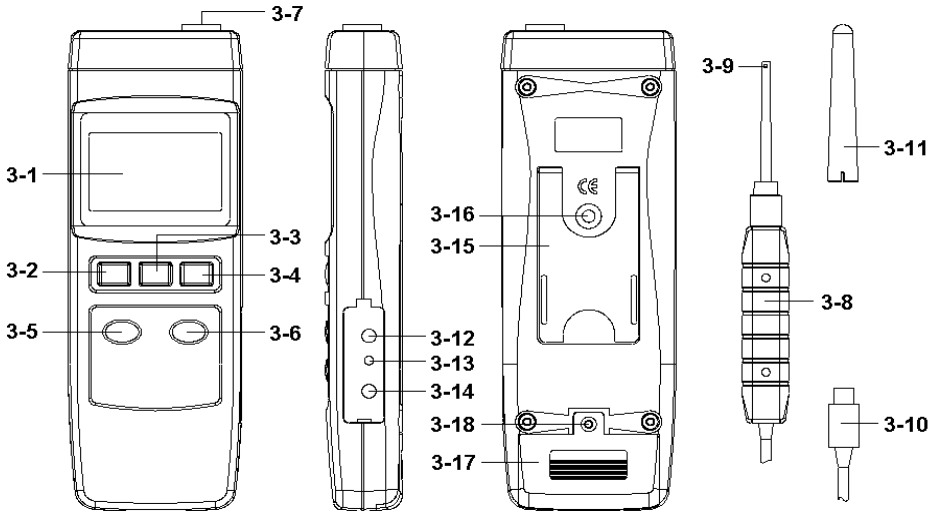

Fig. 1
- 1) Power ON the meter by pressing the " Power Button " (3-2, Fig. 1) once.
- 2) Press the " Mode Button " (3-6, Fig. 1) once , the Display will show the following screen in sequence :
- * Before the measurement, fix the probe at the exact position, press the " ZERO Button " (3-5, Fig. 1), in the same time the display will show the " 0 " indicator.
During the measurement, press the " Hold Button " (3-3, Fig. 1) once will hold the measured value & the LCD will display a " HOLD " symbol.
- * The data record function records the maximum and minimum readings. Press the " REC Button " (3-4, Fig. 1) once to start the Data Record function and there will be a " REC " symbol on the display.
a) Press the " REC Button " (3-4, Fig. 1) once, the " REC MAX " symbol along with the maximum value will appear on the display.
If intend to delete the maximum value, just press the " Hold Button " (3-3, Fig. 1) once, then the display will show the " REC " symbol only & execute the memory function continuously.
- b) Press the " REC Button " (3-4, Fig. 1) again, the " REC. MIN " symbol along with the minimum value will appear on the display.
If intend to delete the minimum value, just press the " Hold Button " (3-3, Fig. 1) once, then the display will show the " REC " symbol only & execute the memory function continuously.
Press the " SET Button " (3-6, Fig. 1) continuously at least two seconds will enter the " Advanced Setting " mode, then press the " SET Button " (3-6, Fig. 1) once a while in sequence to select the three function, the lower Display will show :
- 1) Use the " REC Button " (3-4, Fig. 1) to enter will enter into the setting of " Auto power off management ".
Press the " Mode Button " (3-6, Fig. 1) once in sequence to select upper text to " yES " or " no ".
- 2) After select the desiring function (YES or no), press the " REC Button " (3-4, Fig. 1) to save the function with default.
- 1) Use the " REC Button " (3-4, Fig. 1) to enter will enter into the setting of " Select the measurement unit of mT or G "
Press the " Mode Button " (3-6, Fig. 1) once in sequence to select the Display text to " t " or " g ".
- 2) After Display unit is selected to " mT " or " G ", press the " REC Button " (3-4, Fig. 1) will save the setting function with default.
The instrument has RS232 PC serial interface via a 3.5 mm terminal (3-12, Fig. 1). The data output is a 16 digit stream which can be utilized for user's specific application. A RS232 lead with the following connection will be required to link the instrument with the PC serial port.